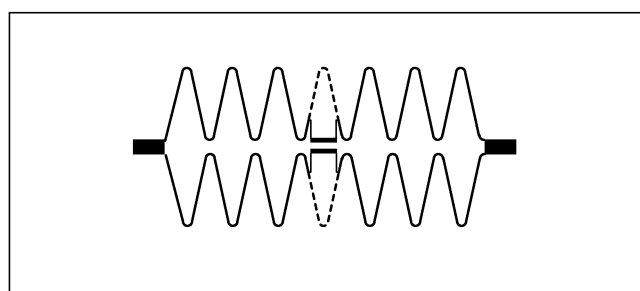

Fig. 4-10
- 2) Establish the REV mode. Confirm that RF waveform at exit side is normal. (Refer to Fig. 4-10.)